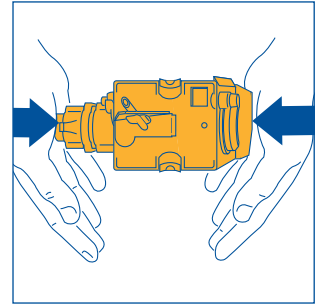

Fig.32
**NOTE 2:** if it is hard to insert the infuser, (before inserting it) squeeze it into size by pressing it vigorously from above and below at the same time, as shown in Figure 32.